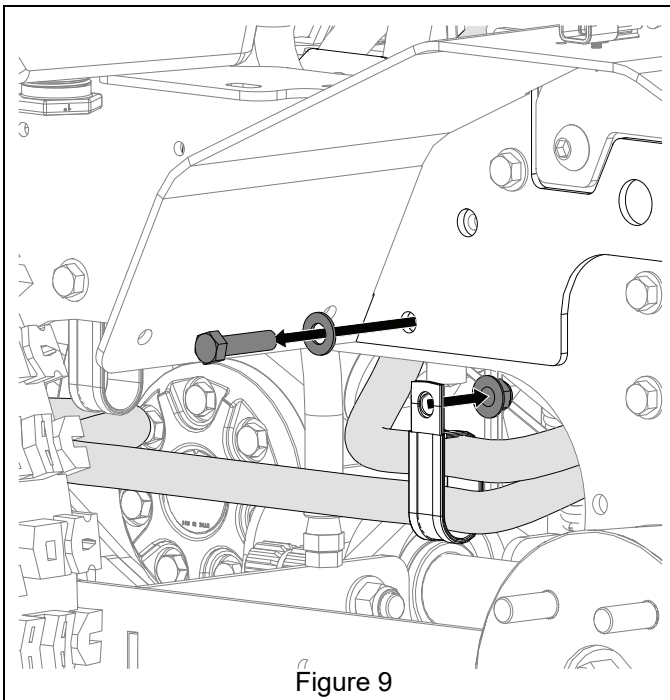

Figure 9
11. Remove and retain hex bolt, flat washer and flange nut securing dual-hose clamp located inside of left frame. See Figure 9.